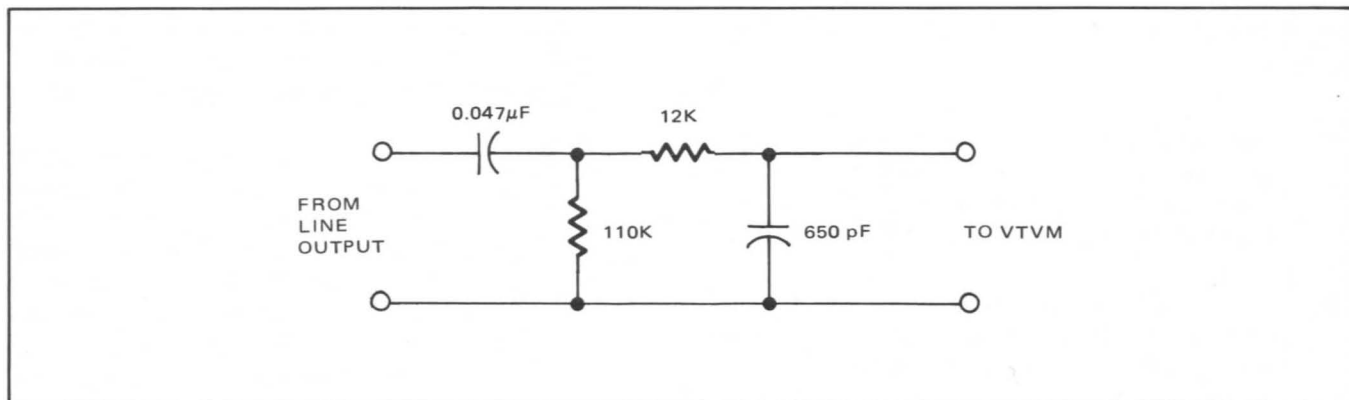
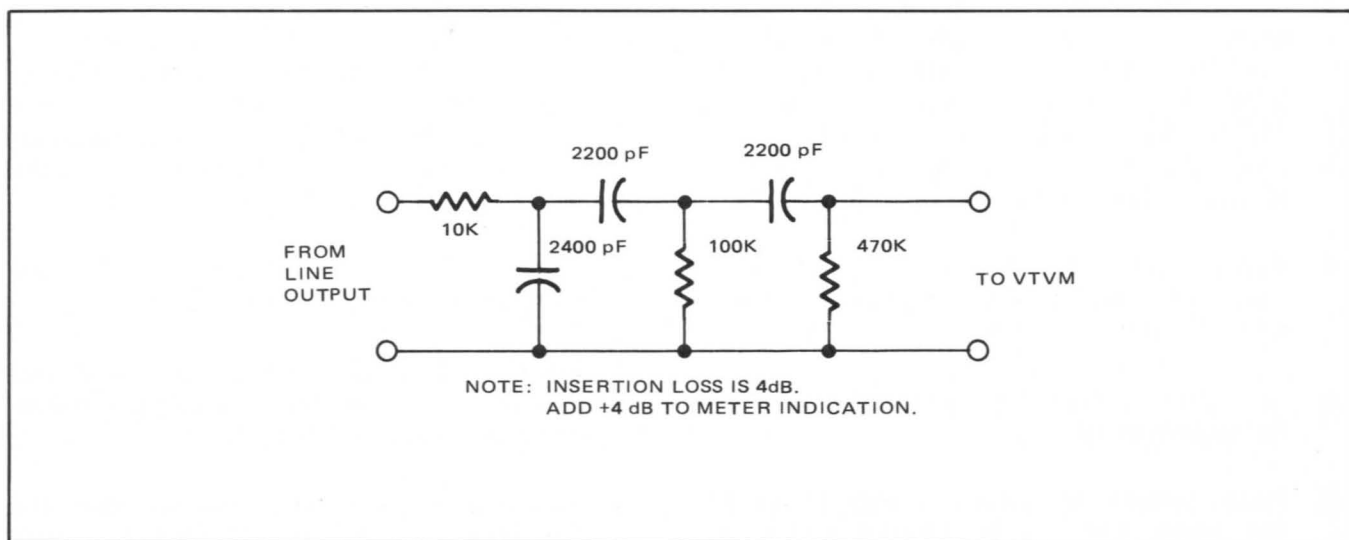

Figure 5-33. 30-Hz to 18-kHz Band Limiting Filter
Figure 5-34. ANSI 'A' Weighted Filter
The signal-to-noise ratio measurement is made using a filter connected to the output of the system to attenuate noise out of the audible-frequency band. Figure 5-33 is a simple passive filter for passing frequencies in the 30 Hz to 18 kHz frequency band and Figure 5-34 is a filter for weighting to the ANSI 'A' characteristic. If desired to use the ANSI 'A' filter shown in Figure 5-34, it is necessary to correct for the insertion loss of the filter at 1 kHz. This is accomplished by adding
2. If an input/output assembly is being used, connect an ac voltmeter through a band limiting filter (Figure 5-33, 5-34, or 5-35) to appropriate output connector, and connect an audio oscillator to appropriate input connector (Figures 2-14 and 2-15).
3. If an input/output assembly is not being used, connect an ac voltmeter through a band limiting filter (Figure 5-33, 5-34 or 5-35) to appropriate output connector J13 or J14 (Figure 2-13 and Tables 2-2 and 2-3) and connect an audio oscillator to appropriate input connector J13 or J14.